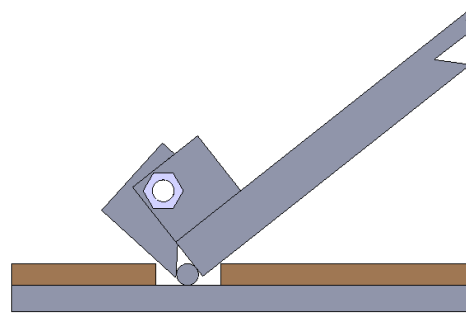

Fig.19
4. To lower lift: Press the button UP, until the safety lock is in the released position (**See Fig.19**), lower lift by pushing lowering handle.